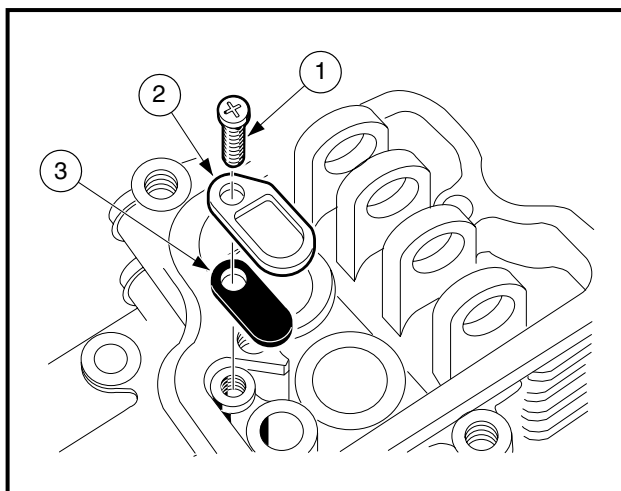

Figure 13-16 Reed Valve
1. Unscrew the mounting screw (1) and remove the back plate (2) and reed valve (3) (Figure 13-16, Page 13-12). For installation, see **Breather Valve Installation** on page 13-20.